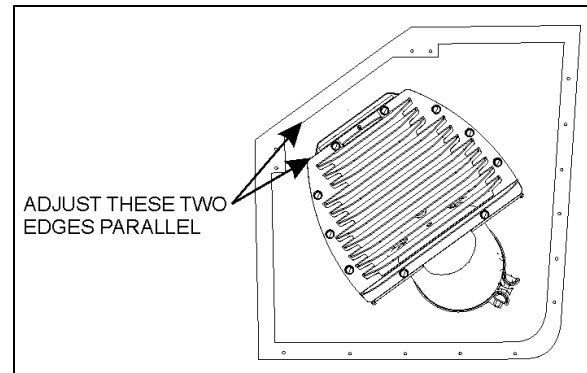

FIGURE 10: DIFFUSER POSITION ADJUSTMENT 04015\_1
2. For proper angular position, make sure that the two edges shown on figure 10 are parallel with each other.